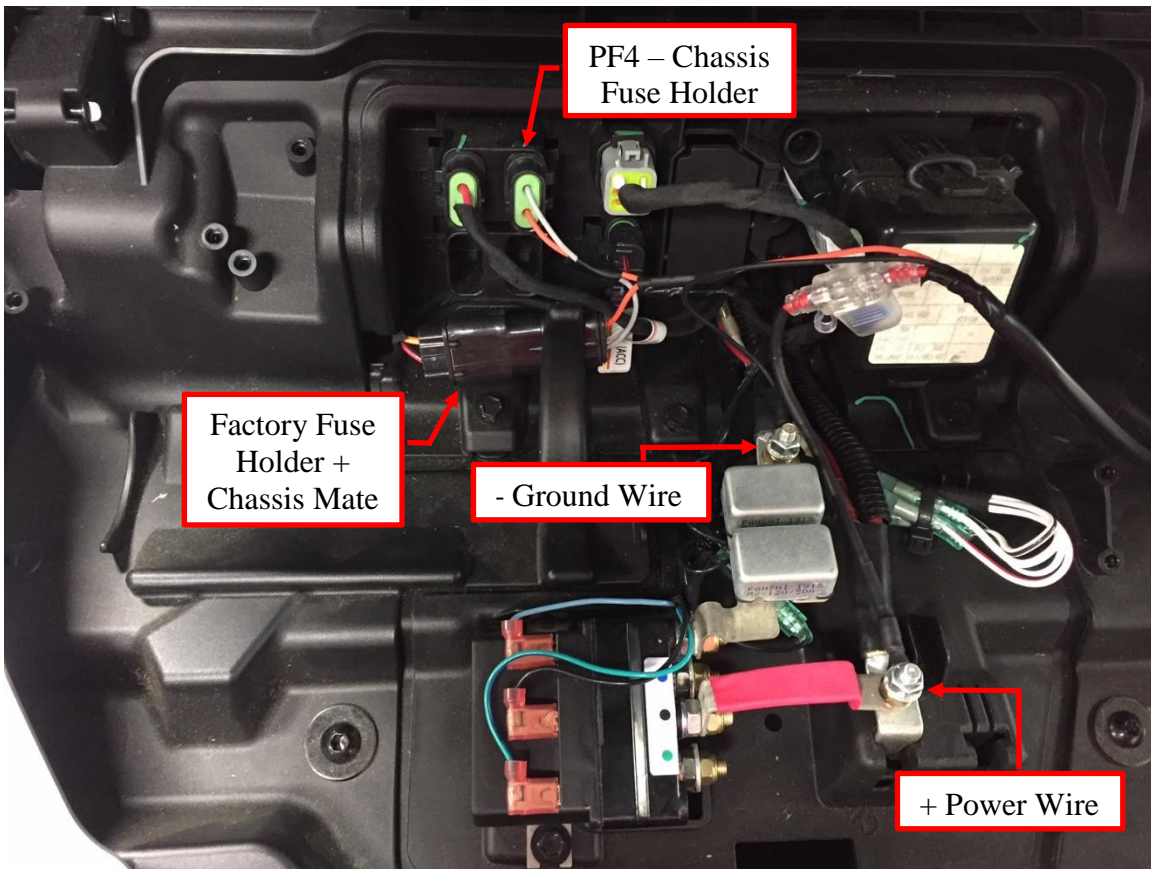

Figure 30: Attach the chassis harness and power wires.
- 26.** Place the chassis connector with the fuse back into port PF4. Connect the factory fuse holder with the mating chassis connector. Remove the junction block cover. Connect the red power wire to the positive terminal of the junction block. Connect the black ground wire to the negative terminal of the junction block. Use the supplied M6 x 1.0 nuts to clamp the cables on top of the existing junction block cables. See Figure 30. **Note: Secure the harness relay in an upright position to eliminate possible water intrusion into the relay.**